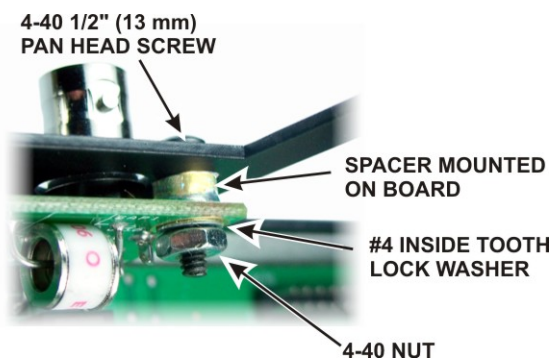

Figure 10. Mounting Hardware.
- Mount the KXV3 rear panel over the BNC connectors using two 4-40 1/2" (13mm) black pan head screws through the corner holes with #4 inside tooth lock washers and 4-32 nuts on the inside as shown in Figure 10. Do not fully tighten the nuts yet.
- Tighten the screws and nuts holding the KXV3 to the back panel that you installed earlier (See Figure 10) .